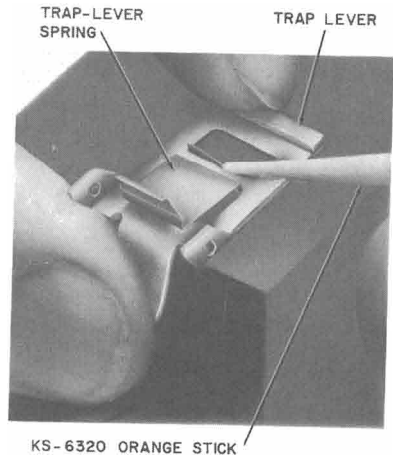

Fig. 6—Bending Trap Lever Spring
- (1) Place trap lever and spring on a flat surface (Fig. 6).
- (2) Use a KS-6320 orange stick to bend trap lever spring around center bar of trap lever (Fig. 6 and 7)